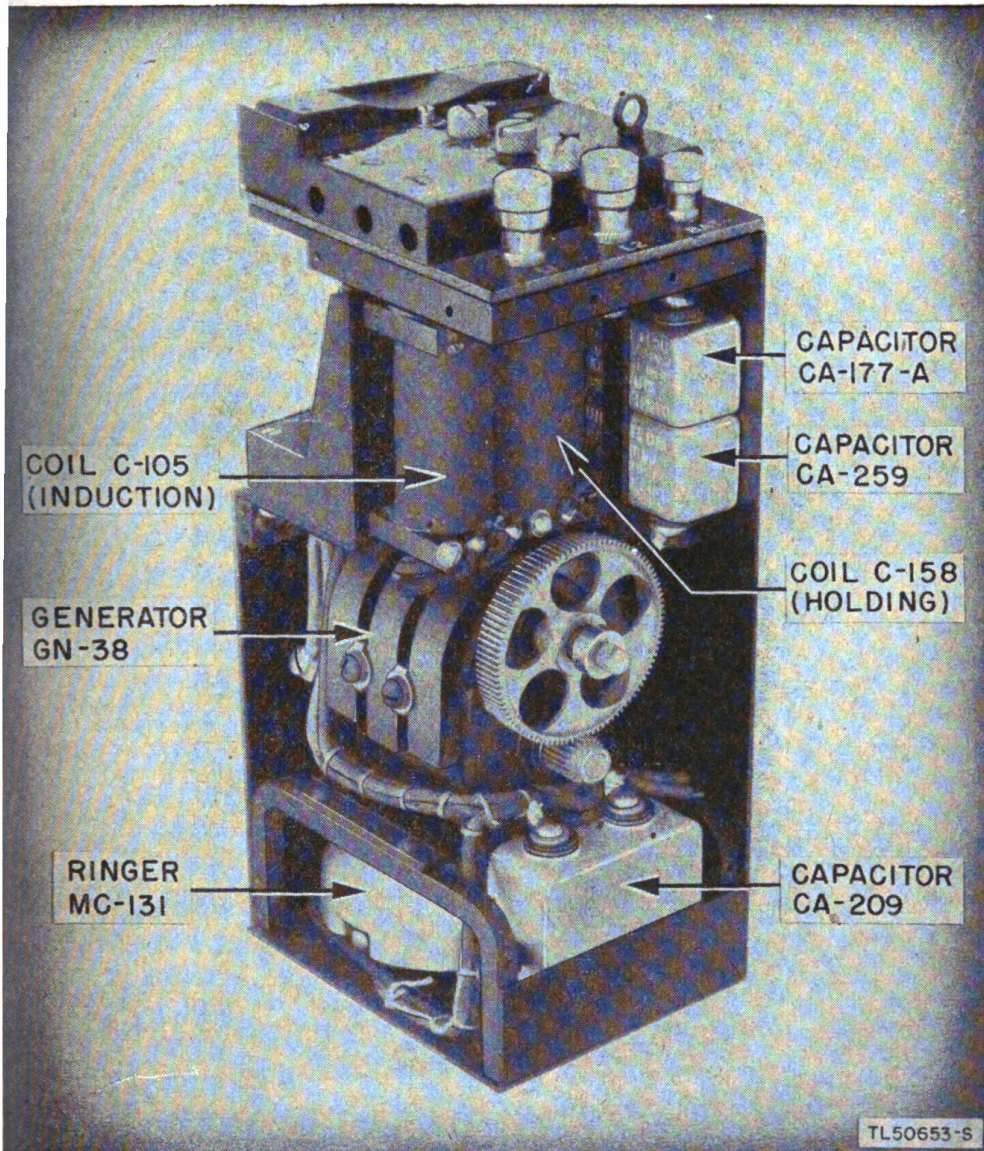
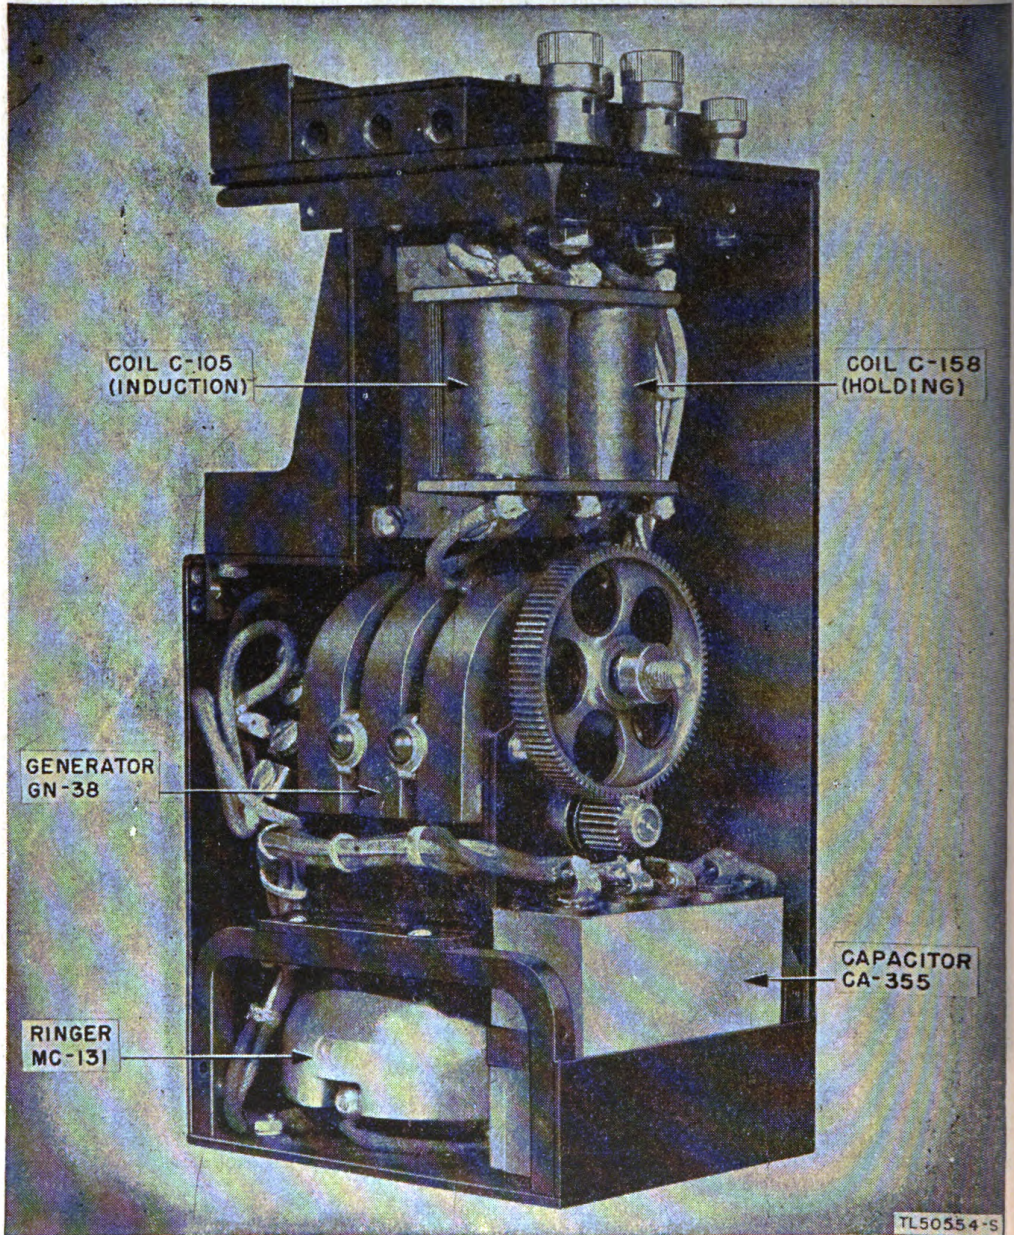
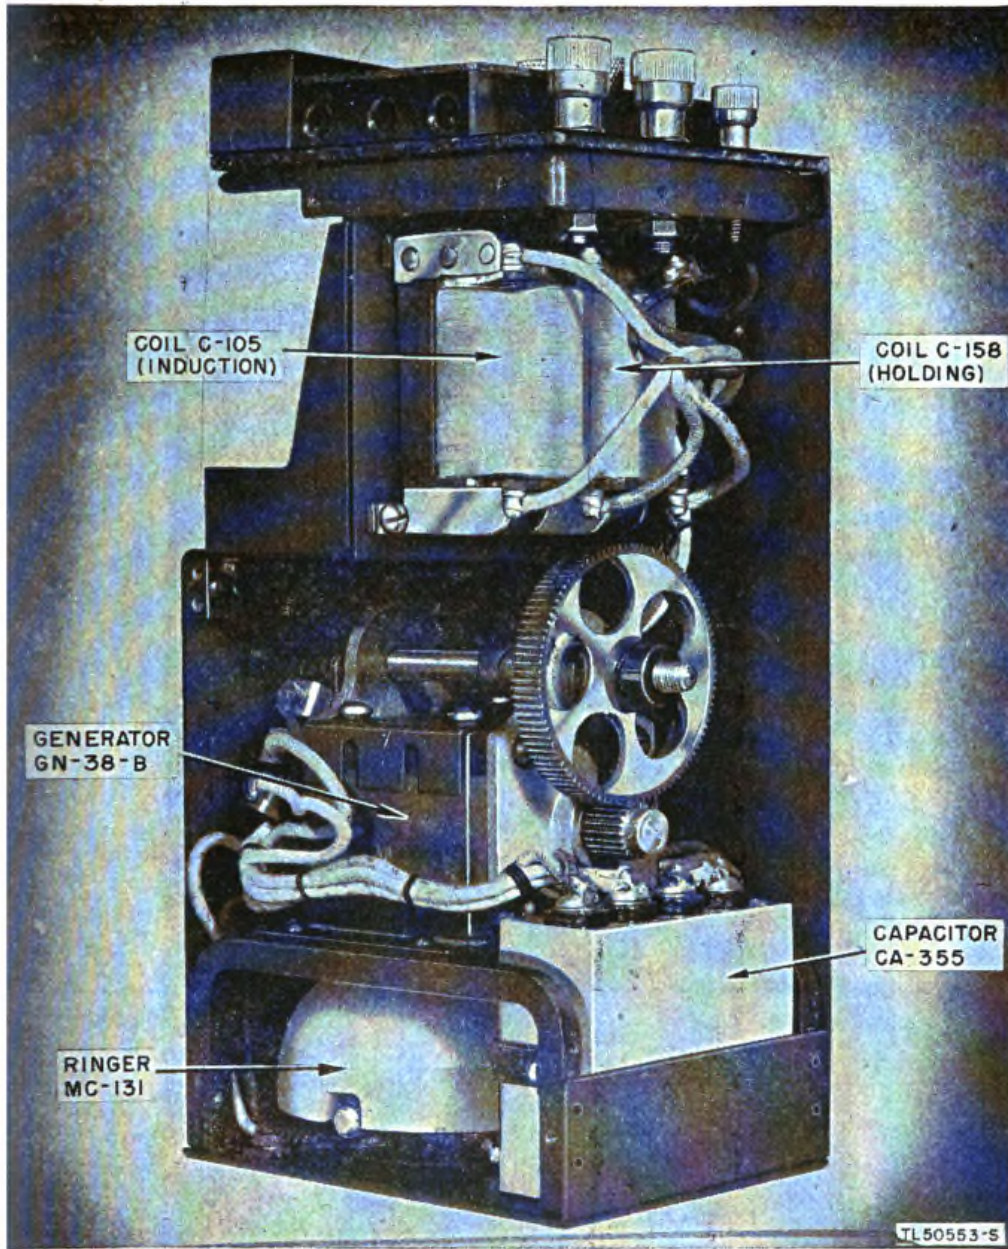

Figure 6. Telephone EE-8 body with the front wall, crank, and side wall removed.
Figure 7. Telephone EE-8-A body with the front wall, crank, and side wall removed.
Figure 8. Telephone EE-8-B body with the front wall, crank, and side wall removed.
- (2) *Coils.* The induction coil (Coil C-105) and the holding coil (Coil C-158) are mounted directly under the terminal block (figs. 6, 7, and 8).
- (3) *Generator GN-38(\*).* Generator GN-38, which is used in Telephones EE-8 and EE-8-A (figs. 6 and 7), or Generator GN-38-A or GN-38-B, which is used in Telephone EE-8-B (fig. 8), is mounted
(4) *Capacitors.* Capacitor CA-355 is mounted below and to the right of the generator in Telephones EE-8-A and EE-8-B. (See figs. 7 and 8). Telephone EE-8 uses Capacitors CA-209, CA-177-A, and CA-259. Capacitor CA-209 is mounted below and to the right of the generator, and Capacitors CA-177-A and CA-259 are mounted behind the holding coil with Capacitor CA-177-A on top. (See fig. 6).
(5) *Ringer MC-131.* Ringer MC-131 is mounted on the floor of the body and to the left of the capacitor. (See figs. 6, 7, and 8.)